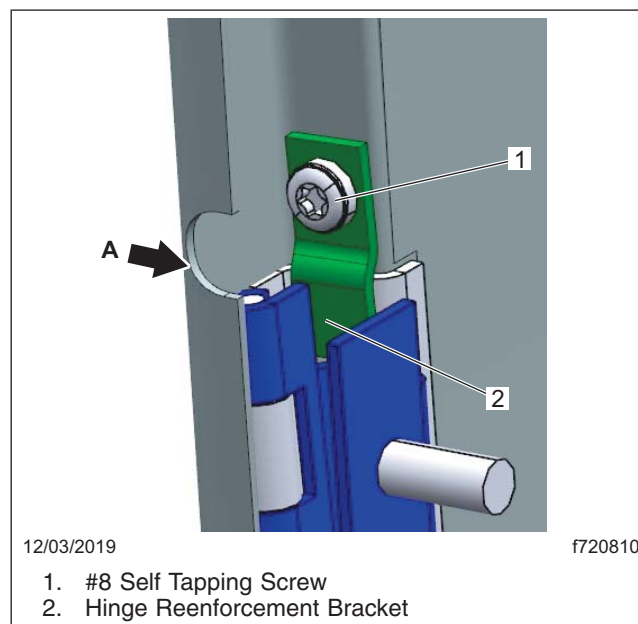

Fig. 1, Door Flange Trim Location
4. Mark out the areas of the door flange to be trimmed. This is to allow tool access for a #8 self tapping screw. See **Fig. 1**, ref. **A**.